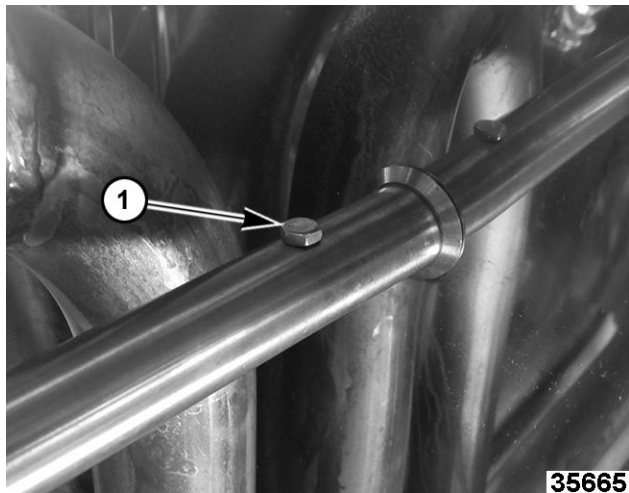

Fig. 24
- Remove water inlet pipe mounting screw (1, Fig. 24) to remove pipe.